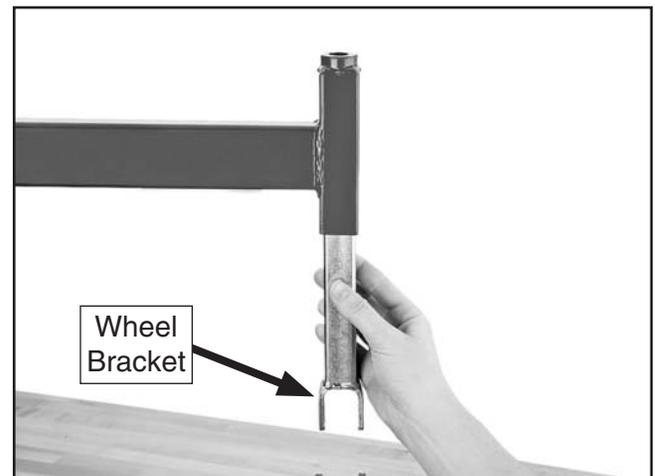

Figure 5. Inserting wheel bracket into frame.
2. Turn the frame upside down and insert the lower wheel bracket into the frame, as shown in **Figure 5**.